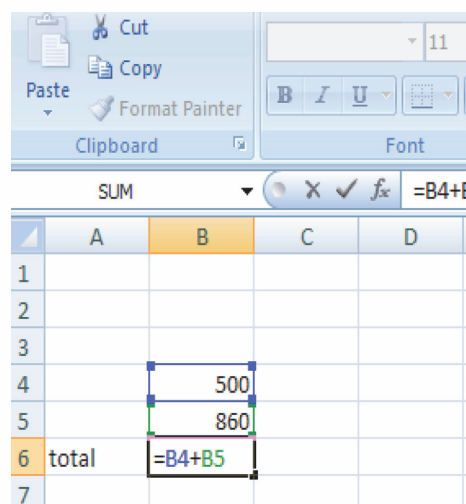

Fig.14.15
- Enter the equal sign (=) then enter the cell number of the first value (eg.,B4) add the + sign and enter the cell number of the second value(say B5) and click on the enter sign to complete the operation (Fig.14.15).